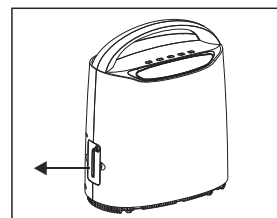

Figure 9
- (1) Pull out the humidifier as the direction in Figure 9.